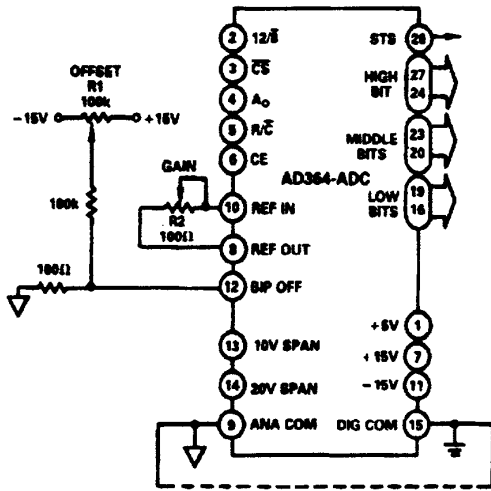

Figure 10a. Unipolar Gain & Offset
**Offset Adjust, AD364-ADC:** Offset adjust circuits for unipolar and bipolar operation are shown in Figures 10a and 10b. In each case the potentiometer should be a multi-turn, low temperature coefficient device, such as 20-turn cermet. Lowest offset drift in unipolar operation will be realized when the fixed resistors are low-TC (100 ppm/ $^{\circ}$ C) metal-film types.
\*Refer to Figure 10a for gain and offset adjustments.